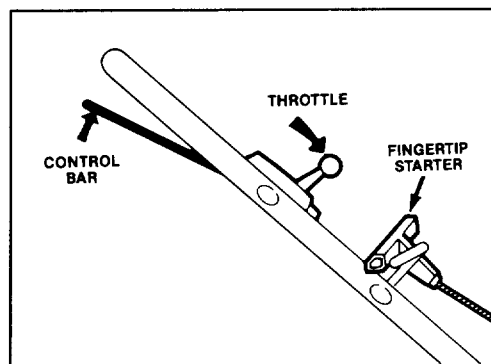

Figure 8
1. **CONTROLS**—Throttle, control bar, and fingertip starter are on upper handle (Fig. 8).
3. **STARTING**—Move throttle to FAST and hold control bar against handle. Pull fingertip starter out until positive engagement results; then pull vigorously to start the engine. Regulate throttle (Fig. 8) as desired when engine starts. If engine does not start after 2 or 3 pulls, wait 10 seconds for carburetor prime well to refill with gasoline.